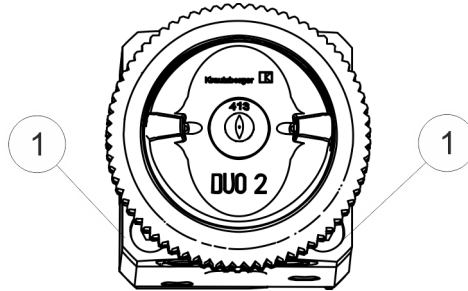

Fig. 35: Tightening the head section again
3. ➔ Reinsert the two cylinder screws ( Fig. 35/1 and 2) at the front side of the head section and tighten with a spanner (SW 16).